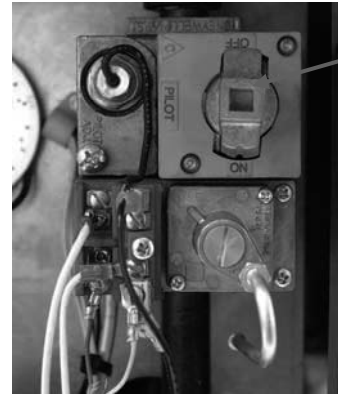

Figure 4
4. Remove the cap from the gas valve regulator adjustment screw. Turn the gas valve to the ON position. See Figure 4.